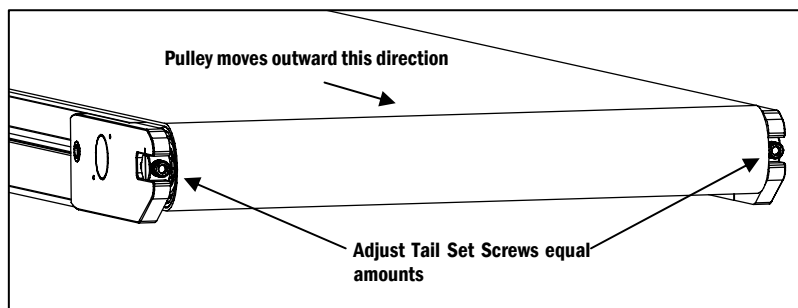

Figure 1
① Add tension to the Belt at the Tail End
a. Increase the belt tension by adjusting the M8 set screws at the Tail Assembly so the Tail Pulley moves away from the conveyor frame (**Figure 1**). The **screws should be extended the same amount** so the belt tracking is not adversely affected (**refer to Belt Tracking in Section 3.02**).